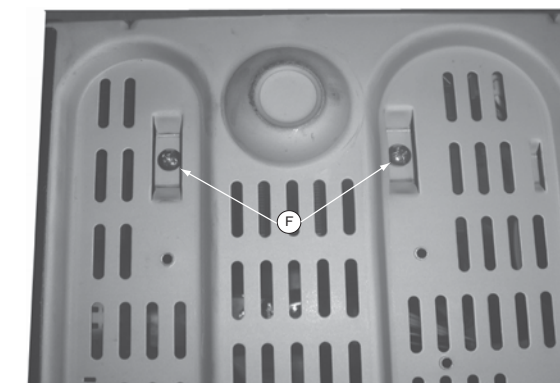

Figure 11
- 3) Release 2 screws 'F' on bottom of the cover as shown in Figure 11.